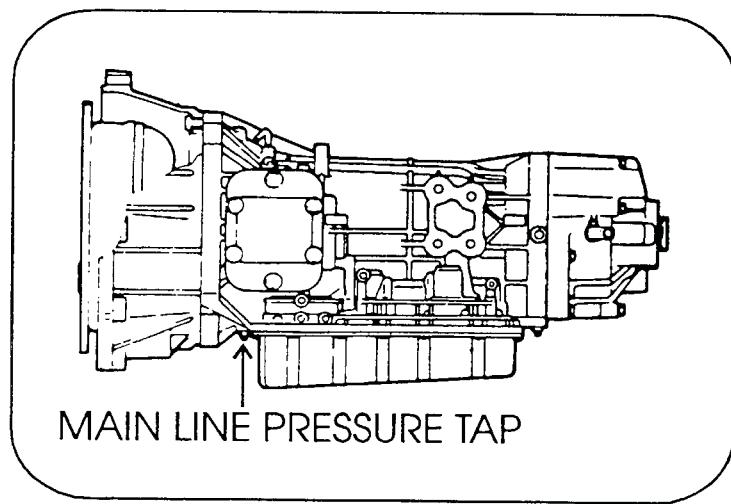

Figure 3
**1989-1993 Vehicles:** A main line pressure tap is located between the bellhousing and pan as shown in Figure 3. Both the DRIVE and REVERSE ranges can be checked at this pressure tap. Attach a 300 pound pressure gauge to the tap as shown in Figure \$ and refer to the following chart for pressure specifications.